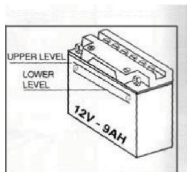

Fig. 44
- 4.1.1 The level of electrolyte must always be in between the upper and lower levels marked on the battery. Normally a constant level in the specified range is maintained for about two months or approximately 2000 kms (Fig. 44).